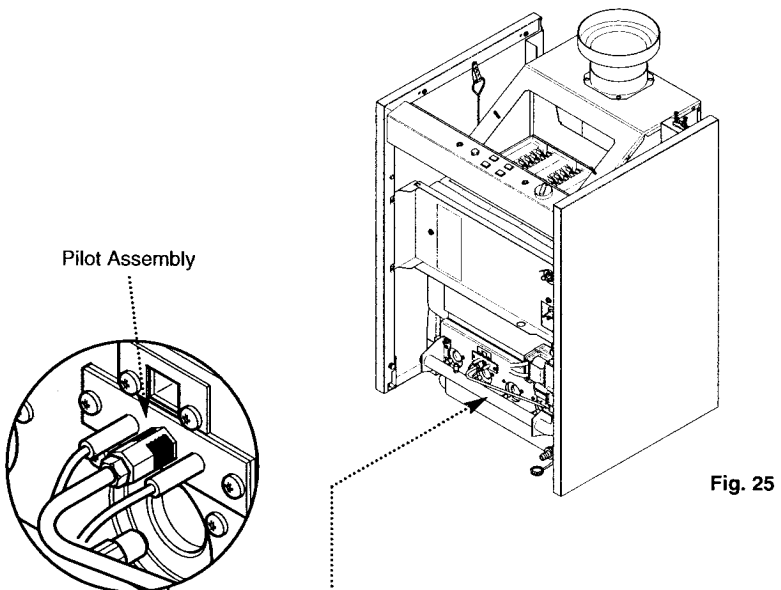

Fig. 25
9. Undo the two nuts securing the valve, injector manifold and burner assembly to the boiler (Figs. 25 & 27).